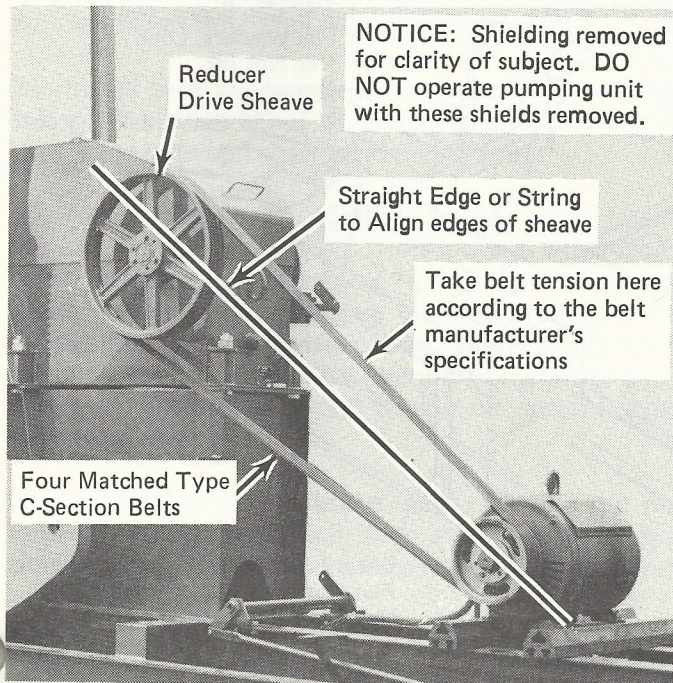

Figure 17
18. Install appropriate size sheave on motor shaft if not already installed. Position motor so belt grooves on motor sheave align with belt grooves on drive sheave on the gear reducer (figure 17). Install four matched Type C-section V-belts and pull motor rearward to snug up belts.